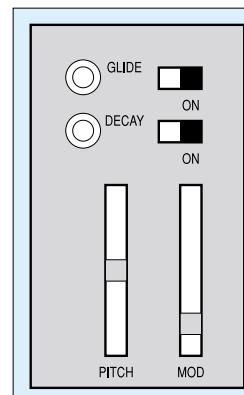
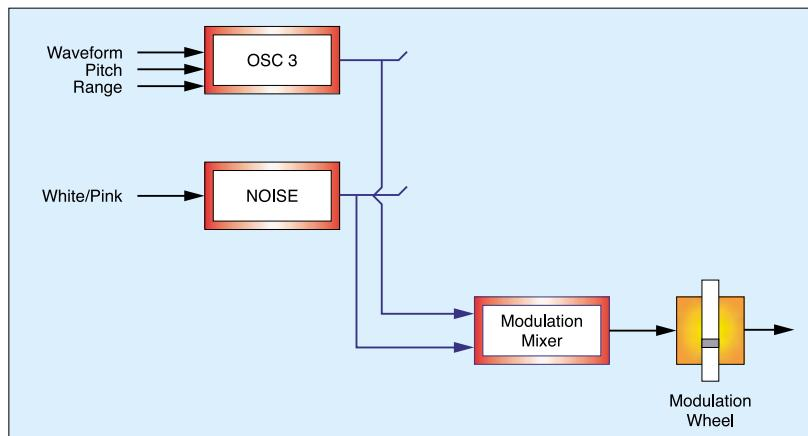
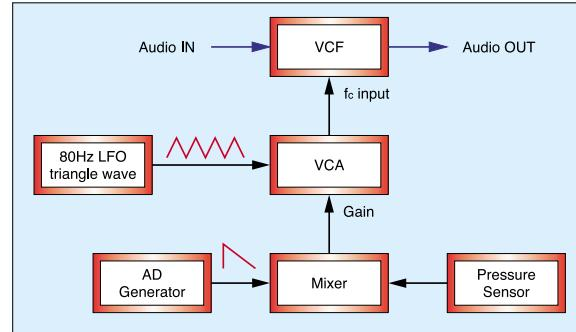

Figure 6: The Minimoog's performance control panel.
Figure 14: Using the Mod wheel to control the modulation level.
Figure 15: Adding 'growl' to the sound.
► Unfortunately, the Minimoog does not have a five-stage loudness contour, nor does it offer any form of loudness sensor, nor does it have an LFO that can add tremolo! Before describing the best that the Minimoog *can* do, I'm going to jump down to the control panel immediately to the left of the keyboard to determine whether the Decay switch is on or off (see Figure 6, right).
The answer lies in the performance controls to the left of the keyboard. If you return to Figure 6, you'll see that there's a control wheel labelled 'Mod'. This allows you manually to control the level of the modulating signal. I've shown the architecture of this in Figure 14 on the next page. It may not look much like Figure 15 (the 'growl' section from last month's Synth Secrets) but, with skilful application of the mod wheel, the result can be much the same.